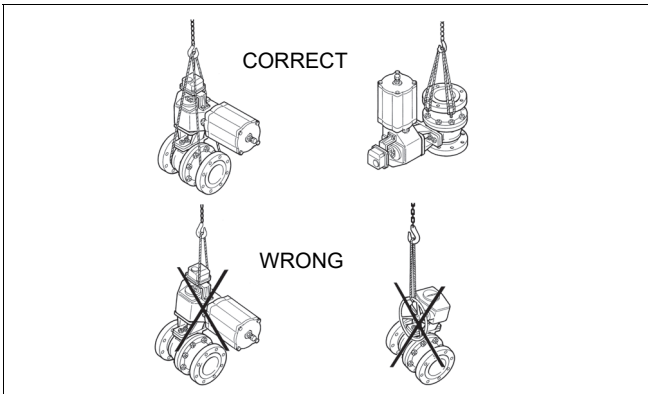

Fig. 5 Lifting the valve
Never lift the valve or valve package by the actuator, positioner, limit switch or their piping. Place the lifting ropes securely around the valve body (see Fig. 5). Damage or personal injury may result from falling parts.
- Support the valve carefully with a hoist. Place ropes carefully and unscrew the pipe flange bolts. See that the ropes are positioned correctly, see Fig. 5. Lift valve down.